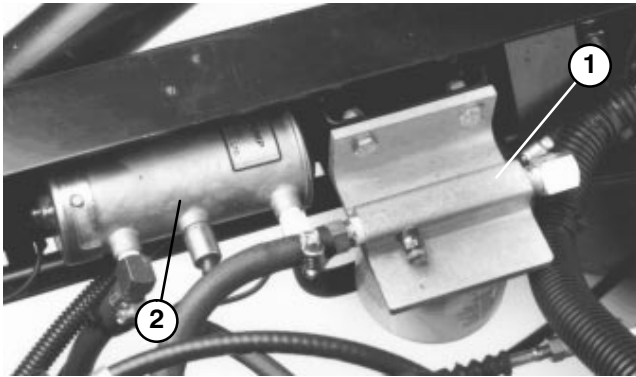

Figure 35
FUEL SYSTEM (Fig. 35–37)
2. Fuel filter/water separator is mounted on inner side of right frame rail (Fig. 35).
2. Fuel pump is mounted on inner side of right frame rail (Fig. 35).